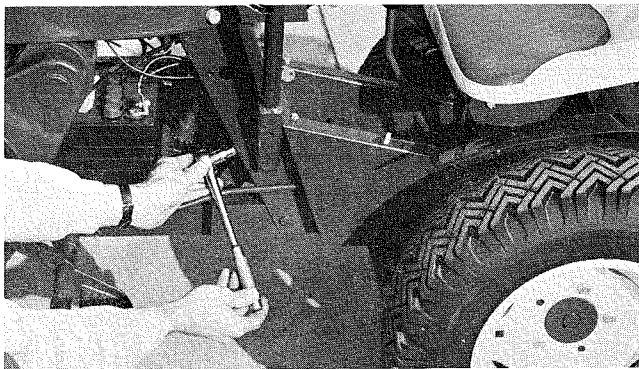

Figure 2
3. Remove tractor lift lever, (part number 2266), by removing the three (3) bolts and hair pin cotter. (See Figure 2)